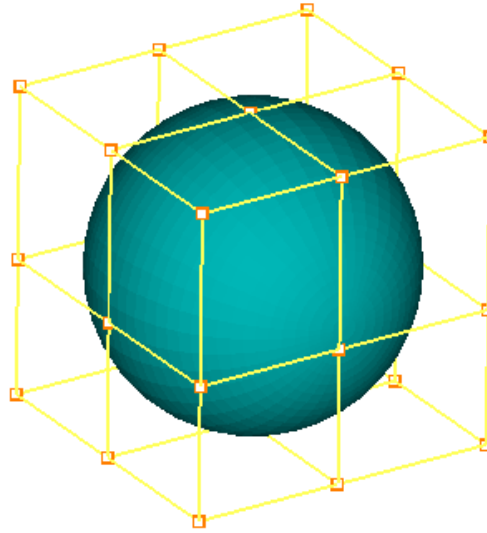

Figure 4.98: Topology where nesting cannot be applied
3. Nesting cannot be applied for 3-D as it may encounter a singular point. As shown in figure 4.98, it cannot be applied along 3D sheet.